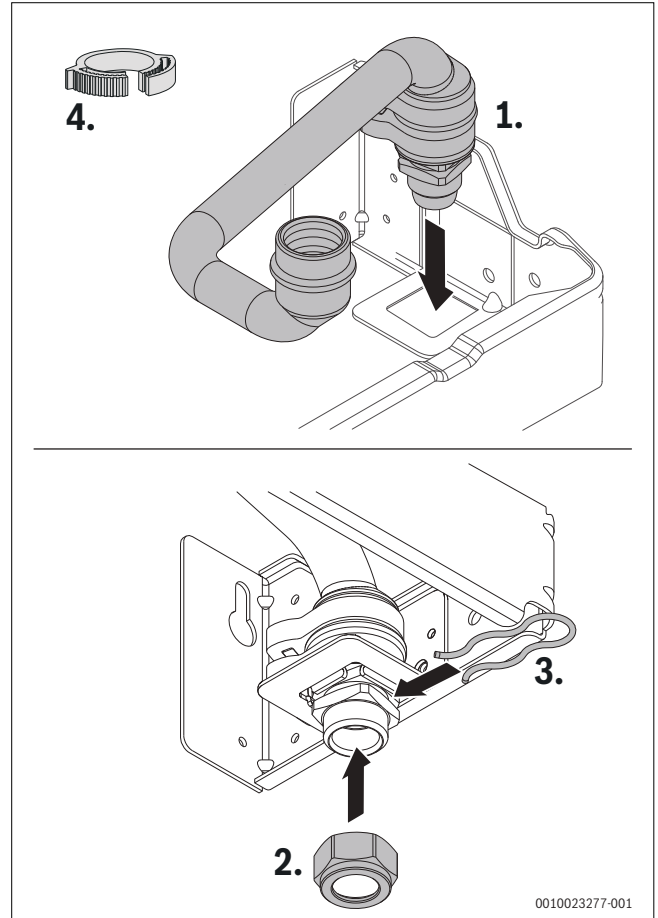
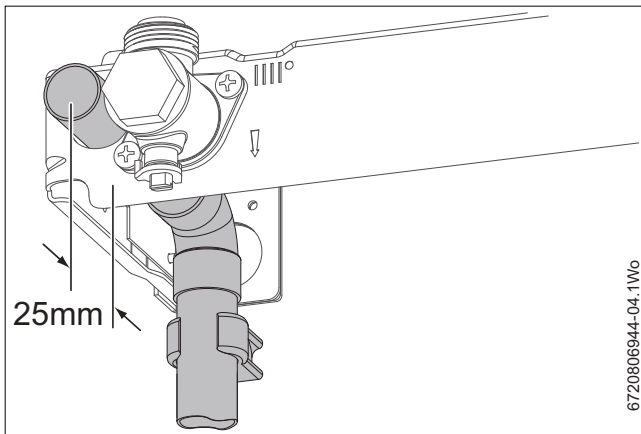

Fig. 45 Connect PRV discharge pipe
Fig. 47 Fitting the condensate pipes to the mounting plate
3. Ensure that 3 black plastic ratchet clips are securely fixed and tightened. Ratchet clip number 4 must be fitted but left loose until the boiler is hung and connection to the PRV is made (→ Fig. 45 and Fig. 47).